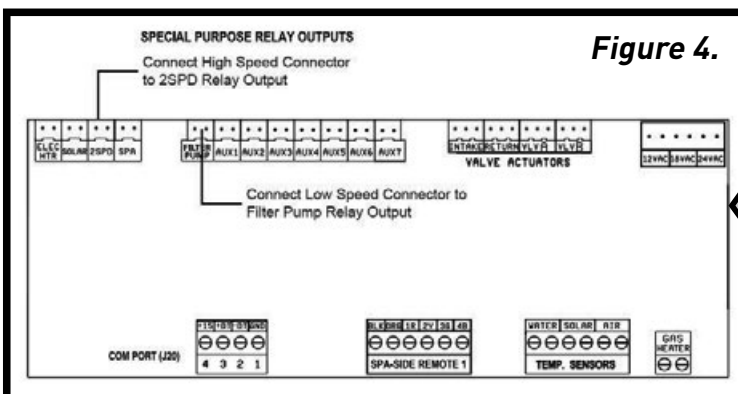

Figure 4.
7. Connect the other end of the control cable to the automation control panel as indicated in **Figure 4**. The High Speed connector is to connect to the "2-SPD" terminal and the Low Speed connector is to connect to the "Filter Pump" terminal.